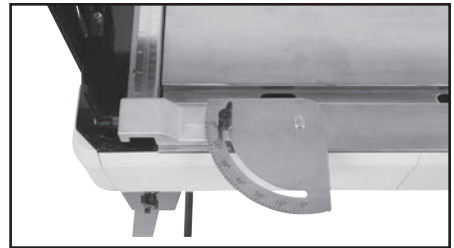

FIGURE 10
3. Properly set the measuring guide and squaring tool (Fig 10).